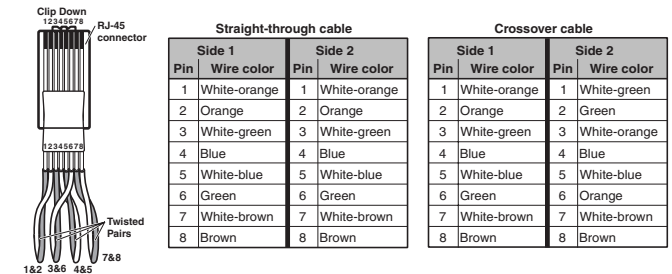

Figure 2-7 — RJ-45 connector wiring
1. Plug one end of a Cat 5, crossover Ethernet cable into the rear panel Ethernet connector of the IPL M PDP-ES interface card. Refer to figure 2-7 for RJ-45 connector wiring.
1. Plug one end of a Cat 5, straight-through Ethernet cable into the LAN port of the IPL M PDP-ES interface card. Refer to figure 2-7 for RJ-45 connector wiring.